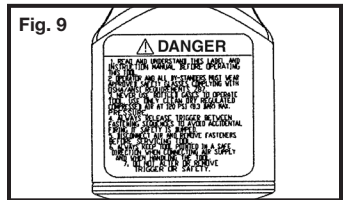

Fig. 9
15. Do not use tool without safety warning label. If label is missing, damaged or unreadable, contact your Porter-Cable Service Center for a replacement. Fig. 9.